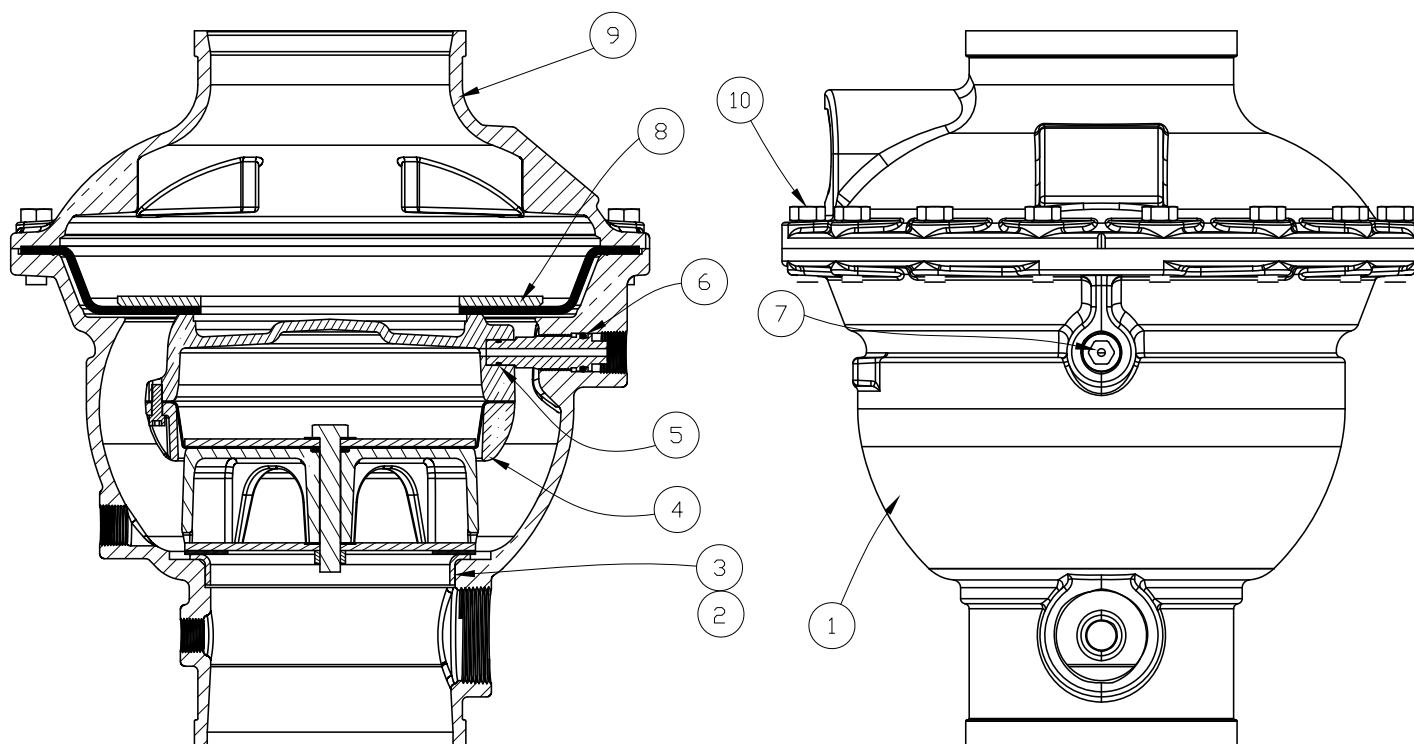

Figure 11 - G-6000P Valve Components List/Replacement Parts
C. Removing / Replacing the Check Diaphragm: (Refer to Figure 11.)
1. The check diaphragm (8) may be lifted from the valve body (1).
2. If necessary, replace the check diaphragm (8).
E. Removing / Replacing the Prime Coupling: (Refer to Figure 11.)
2. Using a wrench on the flats of the coupling (7), remove the coupling (7) from the valve body (1).
3. Inspect the coupling (7) and O-rings. Replace if necessary, using the instructions in O-Ring Replacement Bulletin F_120611.
F. Removing / Replacing the Prime Chamber Assembly: (Refer to Figure 11.)
1. The prime chamber assembly (4) is now held in place by two flanges on the outside diameter of the assembly. Slide the prime chamber assembly (4) toward the prime line and remove from the body (1).
3. Inspect the seat (2). The seat should be clean and free of foreign material. If the seat is damaged, the G-6000P Valve must be replaced.
G. Re-Assembling the Valve: (Refer to Figure 11.)
1. Place the prime chamber assembly (4) in the valve body (1). Make sure the two flanges are positioned in the groove.
2. Thread the prime coupling (7) into the valve body (1). Make sure the end of the prime coupling (7) is inserted into the prime chamber assembly (4).
3. Lay the check diaphragm (8) into the valve body (1).
4. Position the cover onto the valve body (1), and install and tighten the cover screws (10).